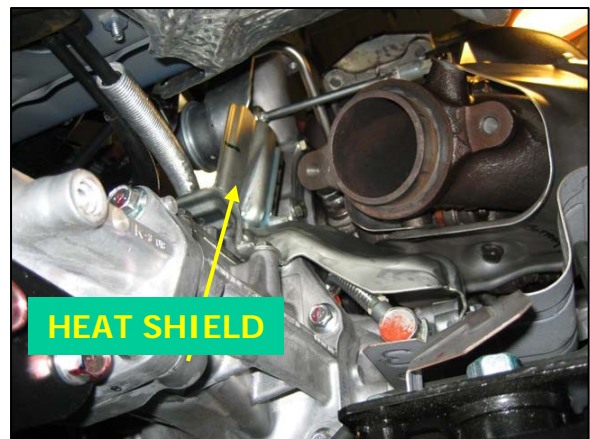
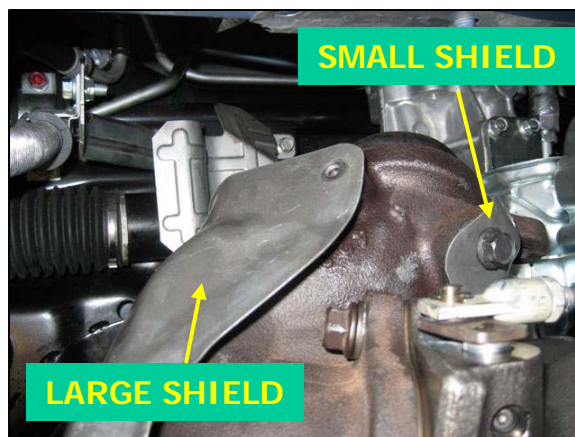

Fig. 17
Fig. 19
19. From underneath the vehicle, remove the heat shield attached to the top side of the transfer case, behind and below the turbocharger. This part will be trimmed in a later step (49) and reused (3 bolts, 10mm socket). See figure 17.
21. From above the turbocharger, locate the large heat shield that covers the downpipe. There is a small heat shield that shares one hole with the large shield and also has its own bolt. The shared bolt is on the underside of the downpipe. Remove 3 bolts total to free both downpipe heat shields, note orientation and remove them. These parts will be reused (3 bolts, 14mm socket). See figure 19. These shields can also be seen in figure 17.
47. Install the small and large heat shields onto the downpipe. The small heat shield shares its lower bolt hole with the large heat shield. Torque bolts to 17-21 lb-ft (21-29 Nm). Refer to figures 17 and 19 (3 bolts, 12mm socket).